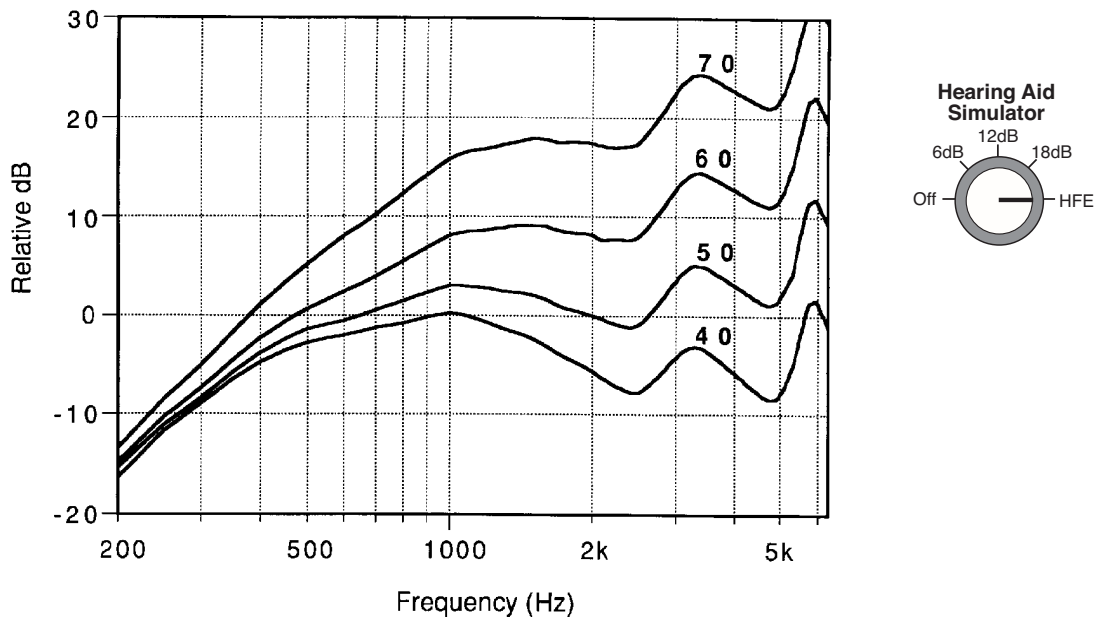

Figure 5.2.1
5. While presenting speech materials through both channels, gradually raise the Hearing Level of the **test-ear-side only**, until maximum *clarity* is achieved. This adjustment changes the level of the high frequencies, while maintaining a constant SPL for the lower frequencies, as Figure 5.2.1 on the next page illustrates.